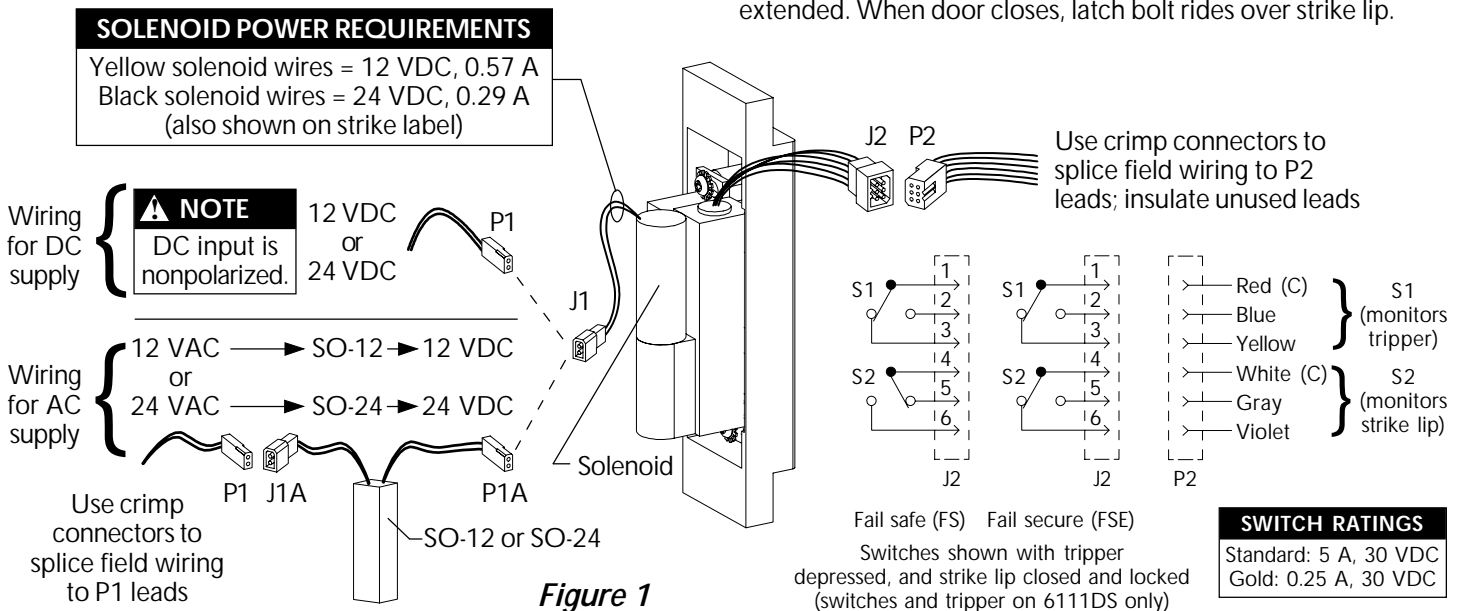

Figure 1
3. Wire strike (Figure 1). (Switches on 6111DS only.)
4. Test strike: Apply solenoid power. Fail secure (FSE) lip unlocks. Fail safe (FS) lip locks. Figure 1 shows status of switches.